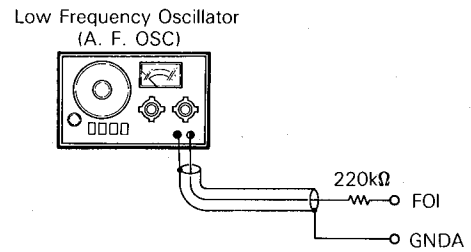
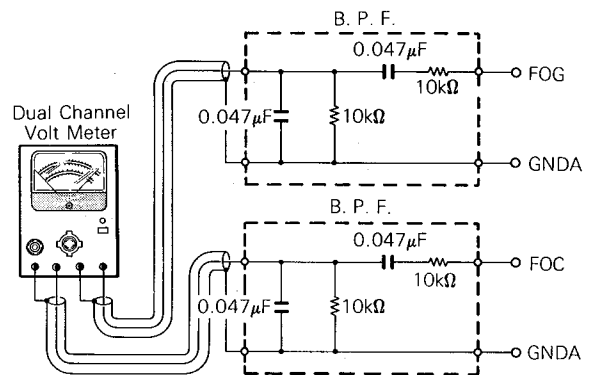

Fig. 19
Fig. 20
- (1) Connect an audio frequency oscillator with 220k ohm resistor in series to FOI and GNDA. (fig. 19)
- (2) Set the audio frequency oscillator output to 800Hz, 1.5V rpm.
- (3) Connect AC volt meter to B.P.F. (fig. 20)
- (4) Connect B.P.F. to test point FOG and GNDA and then to FOC and GNDA. Measure the output level at each point. (fig. 20)
- (5) Insert the Philips disc #5 and place the unit in the play mode on track number 8.
- (6) Adjust VR102 so that the voltage differential between FOC and FOG becomes 13dB ± 2dB. (FOC - FOG = 13dB)